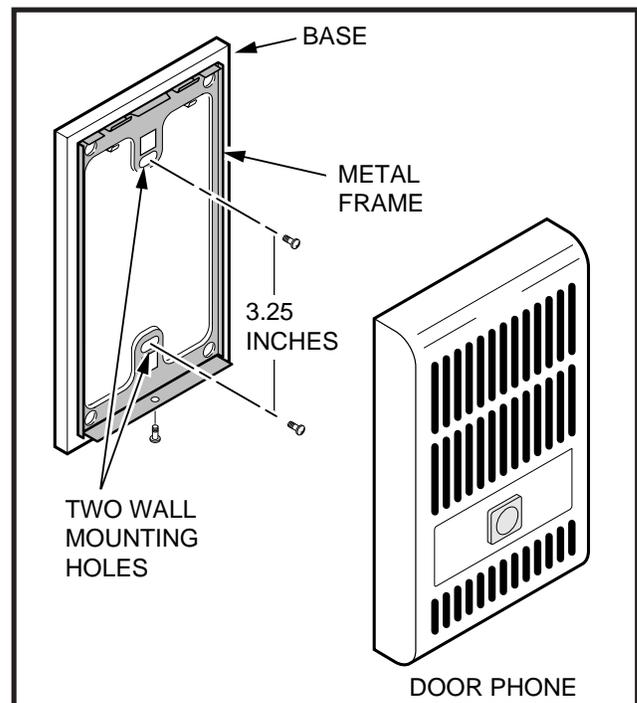

FIGURE 7-17
- 1) Remove the screw from the bottom of the cover. Detach the cover from the base and metal frame (Figure 7-17).
mounting surface and secure with two one-inch panhead wood screws (Figure 7-17).